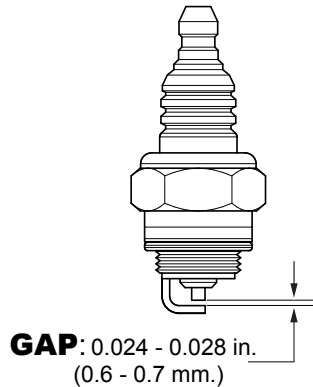

Figure 20. Spark Plug Gap
1. Remove and clean the spark plug (See Figure 20), then adjust the spark gap to 0.024~0.028 inch(0.6~0.7 mm). This unit has electronic ignition, which requires no adjustments.